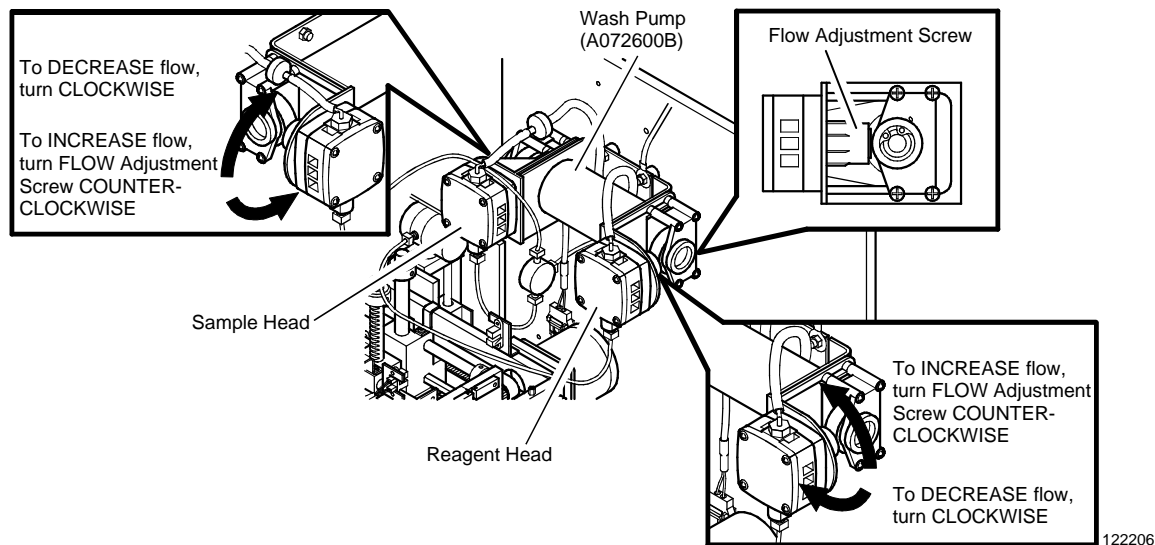

Figure 1
- If the volume from the reagent head is less than 25ml, turn the reagent flow adjustment screw (see **Figure 1**) in the counter-clockwise direction for 1/16 of a turn to increase the flow. Repeat the Flow Check.
- Perform the Solenoid Valve Check to verify that the valve does not leak. If the volume from the reagent head is greater than 25ml and less than 30ml but the solenoid valve leaks, turn the reagent flow adjustment screw (see **Figure 1**) in the clockwise direction for 1/16 of a turn to decrease the flow to 25ml. The pressure may be too high, causing the valve to leak. (More than one adjustment may be necessary.) Repeat the Flow Check.
- If the volume from the sample head is less than 60ml, turn the sample flow adjustment screw (see **Figure 1**) in the counter-clockwise direction for 1/16 of a turn to increase the flow. Repeat the Flow Check.
- Perform the Solenoid Valve Check to verify that the valve does not leak. If the volume from the sample head is greater than 60ml and less than 80ml but the solenoid valve leaks, turn the sample flow adjustment screw (see **Figure 1**) in the clockwise direction for 1/16 of a turn to decrease the flow. The pressure may be too high, causing the valve to leak. (More than one adjustment may be necessary.) Repeat the Flow Check then the Solenoid Valve Check.